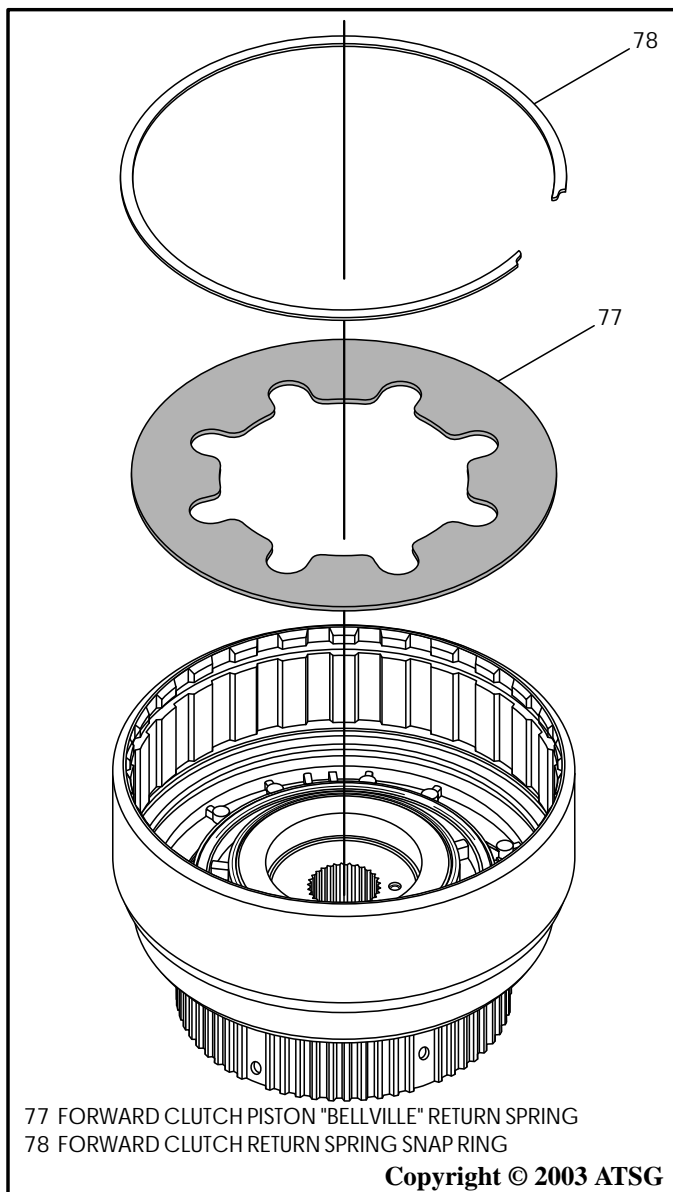

Figure 105
10. Install the forward clutch "Bellville" return spring into housing in the direction shown in Figure 105.
11. Compress the return spring and install return spring snap ring, and ensure it is fully seated (See Figure 105).